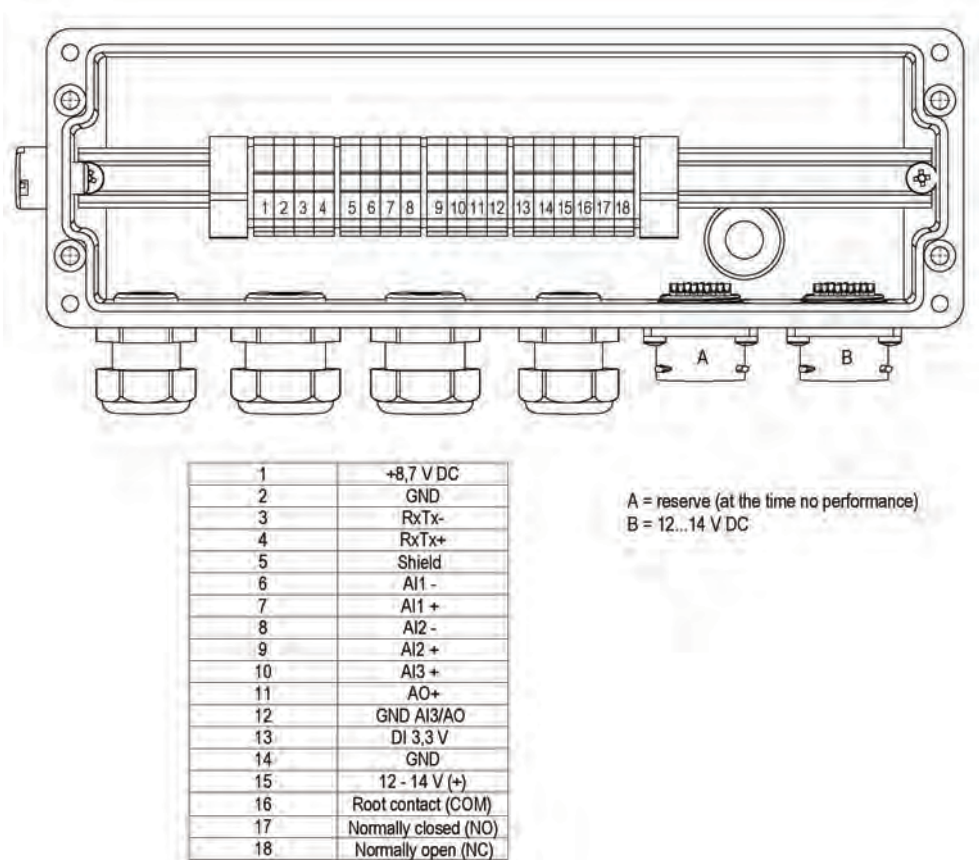

Fig. 27-2 Connector Box terminal wiring
4. Connect the sensors to the Connector Box. See terminal wiring diagram (Fig. 27-2).